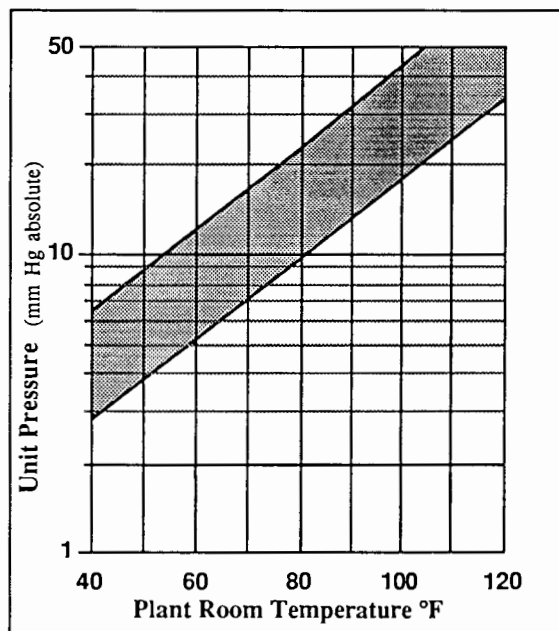

FIG. 1
10. When the unit vacuum falls within the gray area on the chart (Figure 1), perform a bubble rate test. Once a bubble rate of 30 bubbles per minute or less from the absorber has been reached, the unit can be operated at low fire.